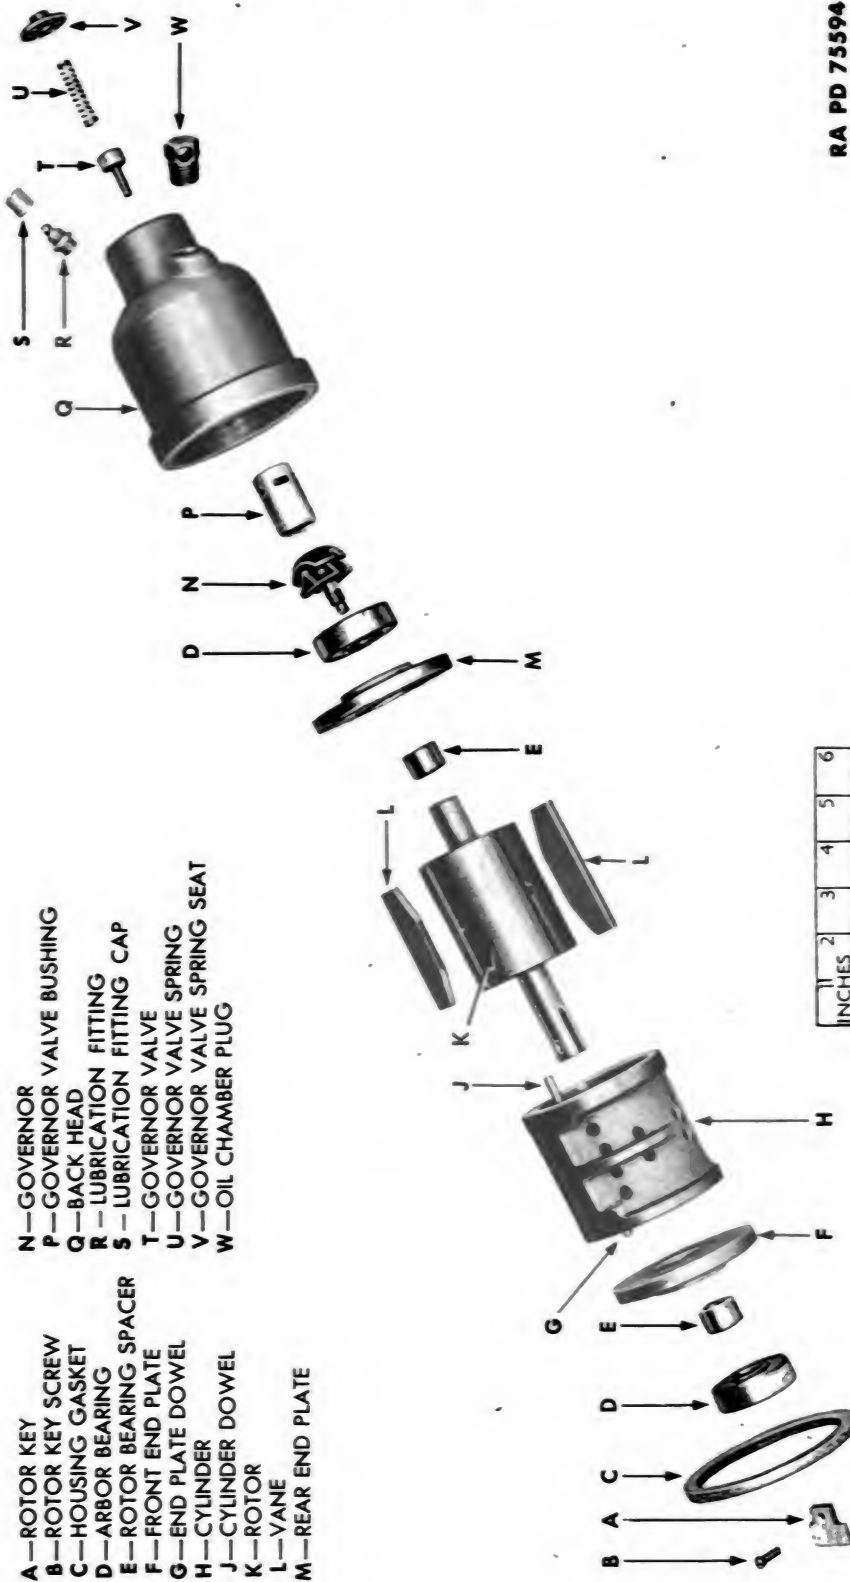

Figure 95 — Air-driven Sump Pump Motor — Exploded View
(1) In order that the pump may be well lubricated at general points the air line lubricator should be used as described in (par. 14 h (2)). In addition the following should be done:
(2) Before starting pump, remove oil chamber plug (fig. 95) from back head. Fill oil chamber with OIL, engine, SAE 10. Refill after each 4 hours of operation. *NOTE: Rate of consumption should be about one-half teacupful every 4 hours. If rate varies noticeably from this, adjust oiler (par. 72 c).*